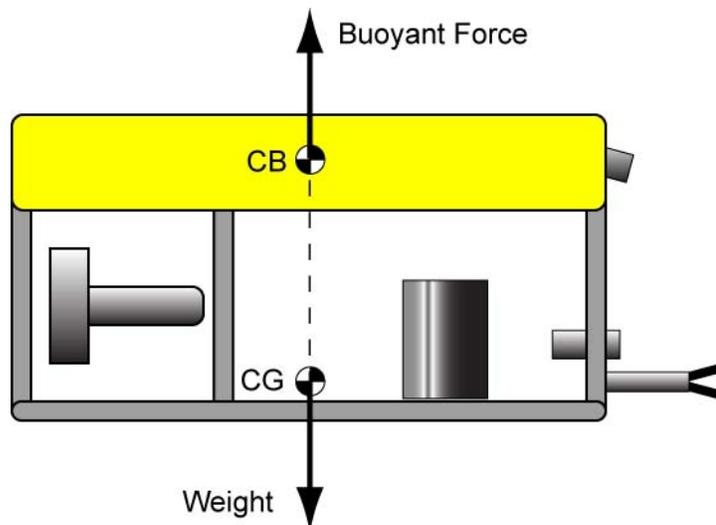

Figure 16: ROV in Static Equilibrium – Weight and Buoyant Forces are Equal and Collinear
- A ROV is in equilibrium when the weight and buoyant forces are equal and collinear. See Figure 16.